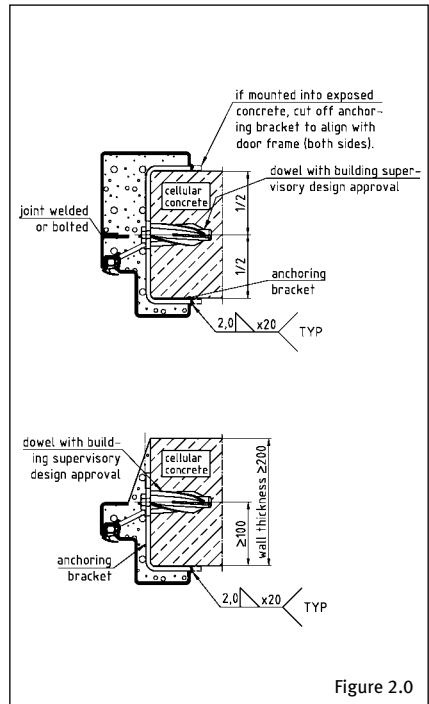

Figure 2.0
- 4.1 If a counterframe is used, the basic frame is mounted as described and the counterframe is screwed together with the basic frame (Figure 2.0).